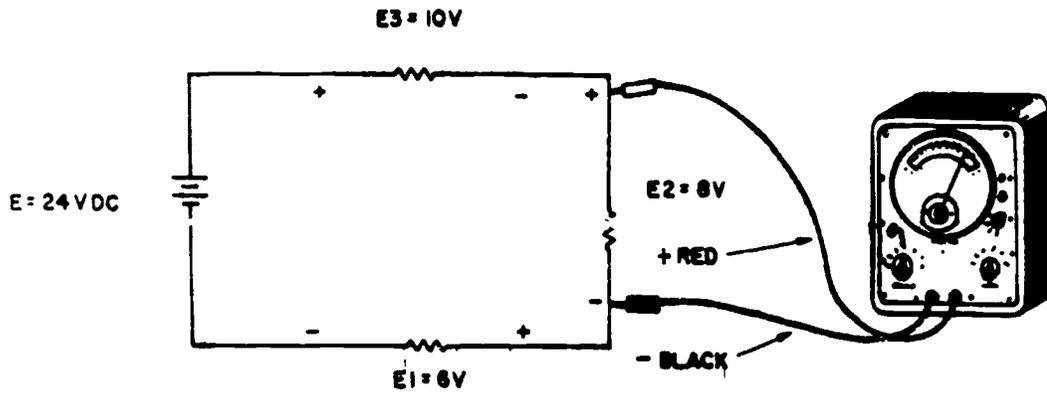

Figure 1.
a. Connect meter in parallel across component to measure voltage. For example, refer to figure 1.